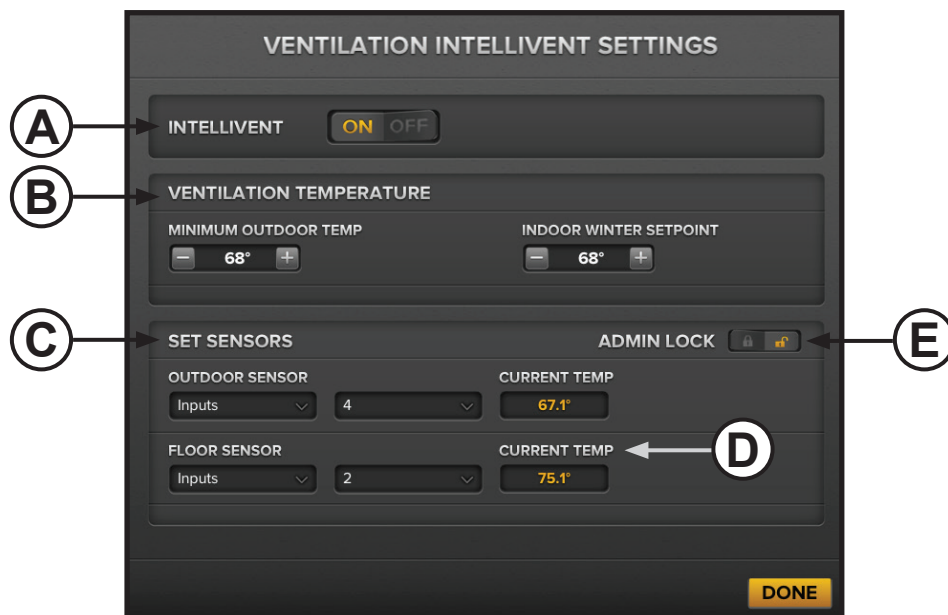

Figure 6—Ventilation IntelliVent Settings page
3. Next to IntelliVent Changes, touch **Edit**. The Louvers IntelliVent Settings or Ventilation IntelliVent Settings page appears (Figure 6). *Note: The Ventilation IntelliVent Settings page is shown in Figure 6. The settings are the same for louvers.*
4. Configure the settings, and then touch **Done**. See Figure 6 below for settings details.